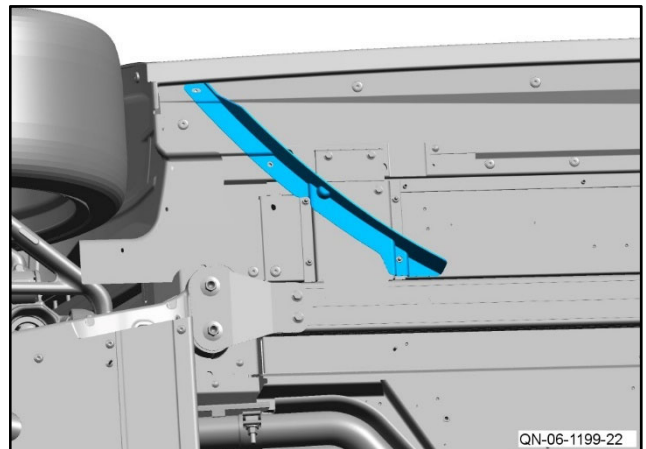

Figure 31
- 30** Put the new right side aero fence into position (refer to Figure 31).